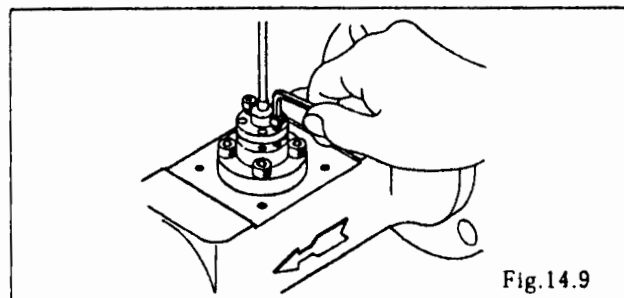

Fig. 14.9
- ⑪ Screwing bolts (M3.5) into tapped holes provided for sensor removal (two places), force the sensor to unseat (Fig. 14.9).